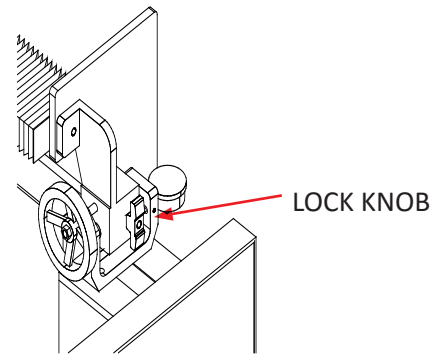

FIG. 34
2. Check the right side adjustment assembly. The dial indicator should read .500. If not, loosen the lock knob and adjust the handwheel until the dial indicator reads .500 and tighten the lock knob. See FIG. 34.